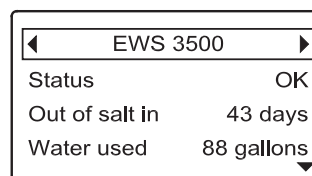

FIG. 104
1. Press the remote's LEFT (◀) or RIGHT (▶) buttons to manually advance to the status screen for the device you want to check. The device name will show in the header. (See Figure 104).